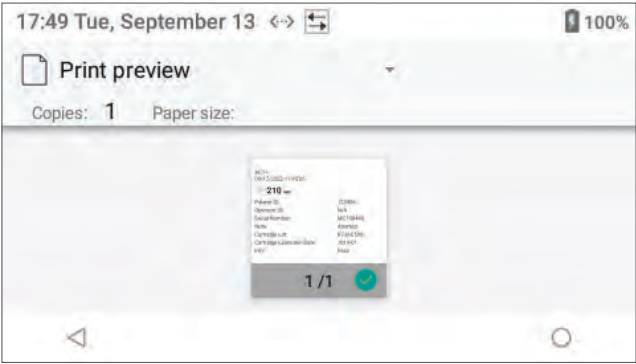

Figure 78: Print Preview
- 1 Select  (Database), select the desired test result (**Patient**, **LQC**, or **EQC**), and then select  (Print). The **Print preview** screen is displayed (Figure 78).